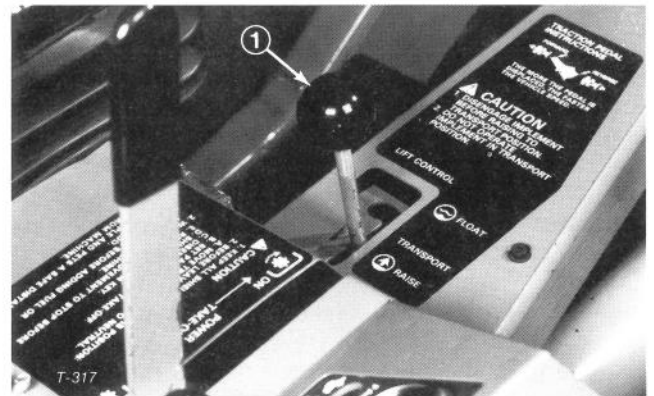
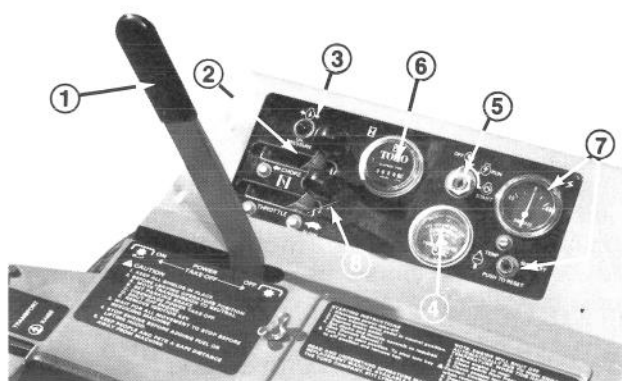

Figure 21
Figure 22
Lift Lever (Fig. 21) — The hydraulic lift lever has three positions; FLOAT, TRANSPORT and RAISE. To lower implement to the ground, move lift lever forward into notch, which is the FLOAT position. The FLOAT position is used for operation and also when machine is not in operation. To raise implement, pull lift lever backward to the RAISE position. After implement is raised, allow lift lever to move to the TRANSPORT position. Normally, implement should be raised when driving from one work area to another, except when descending steep slopes.
PTO Lever (Fig. 22) — The PTO lever has two positions; ON, engage and OFF, disengage. Slowly push PTO lever fully forward to ON position to start the implement or cutting unit blades. Slowly, pull lever backward to OFF position to stop implement operation. The only time PTO lever should be in the ON position is when implement or cutting unit is down in operating position.
Oil Pressure Warning Light (Fig. 22) — The oil pressure warning light will glow and a buzzer will sound when oil pressure in engine drops below a safe level. If low oil pressure ever occurs, stop engine and determine the cause. Repair the damage before starting the engine again.
Hour Meter (Fig. 22) — The hour meter registers accumulated hours of engine operation. Use the hour meter to determine intervals for service maintenance and lubrication.
Ammeter (Fig. 22) — Ammeter shows charge rate of the battery by the alternator. When engine is running, there usually is a slight charge, unless engine is idling slowly. Needle will point to 0 when battery is fully charged. By contrast, alternator is not charging the battery when needle points to (-) negative side of ammeter, and if this happens, repair the charging system to prevent discharge of the battery.
Temperature Switch/Gauge and Reset Button (Fig. 22) — The temperature switch/gauge registers the temperature of the coolant in the cooling system. If temperature of coolant gets too high the engine will shut off automatically. When this happens, rotate ignition key to OFF. Automatic shut-off of the engine usually results from debris on front of screen or radiator, which reduces air flow. After cleaning outside of screen and radiator or repairing some other damage, press the reset button and start the engine.
Ignition Switch (Fig. 22) — The ignition switch, which is used to start and stop the engine, has three positions; OFF, RUN and START. Rotate
Choke (Fig. 22) — To start a cold engine, close carburetor choke by moving choke control fully forward. After engine starts, regulate choke to keep engine running smoothly. As soon as possible, open the choke by pulling it backward.
Throttle (Fig. 22) — Throttle is used to operate engine at various speeds. Moving throttle forward increases engine speed — FAST; backward decreases engine speed — SLOW. The throttle regulates the speed of the cutter blades or other implement components and, in conjunction with traction pedal, controls ground speed of the traction unit.
1. Insure parking brake is set, PTO lever is in OFF position (Fig. 22) and lift lever is in TRANSPORT or FLOAT position (Fig. 21). Remove foot from traction pedal and assure it is in neutral.
2. Move throttle control (Fig. 22) to 1/4 - 1/3 open position.
3. To start engine, move choke lever (Fig. 22) fully forward.
4. Insert key into ignition switch (Fig. 22) and rotate it clockwise to START position. Release key immediately when engine starts and regulate choke to keep engine running smoothly.